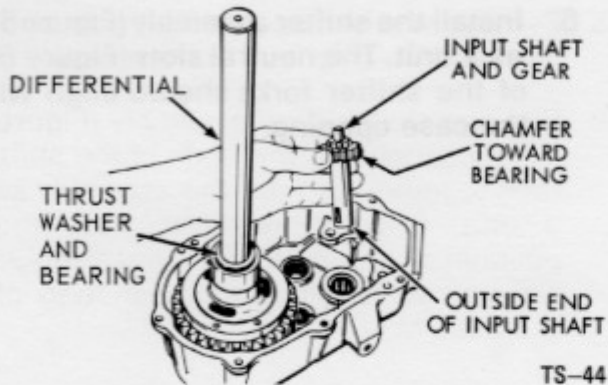

Figure 49 - Input Shaft and Gear
2. Install the input shaft and 16-T spur gear (Figure 49) into the case.
3. Place a $1/16''$ x $1''$ I.D. thrust washer, then a roller thrust bearing followed by a $1/16''$ x $1''$ I.D. thrust washer (Fig. 49) on the axle shaft.
4. Install the differential assembly (Figure 49) with the cap screw heads down into the case.